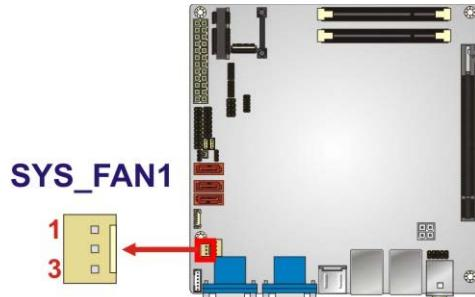

Figure 3-12: System Fan Connector Location
**CN Location:** See Figure 3-12